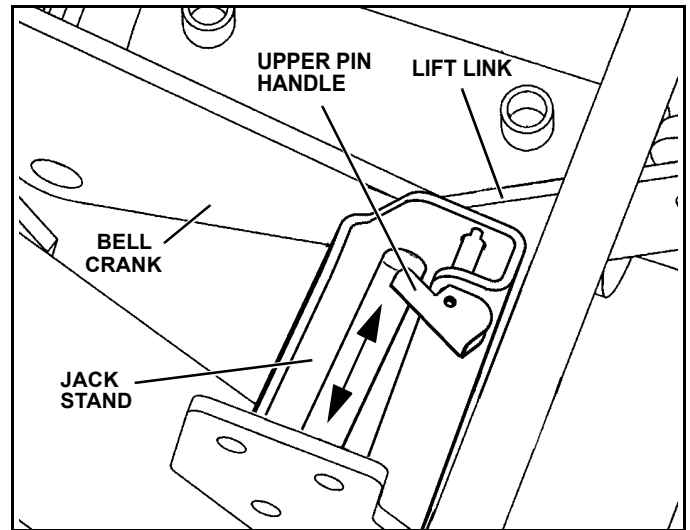

Figure 1-21
2. Disengage lower jack stand pin by pulling on handle. Lower the jack stand and engage the top pin by pushing on the handle. Make sure pin is engaged in hole by rotating jack stand back and forth. (See Figure 1-21)